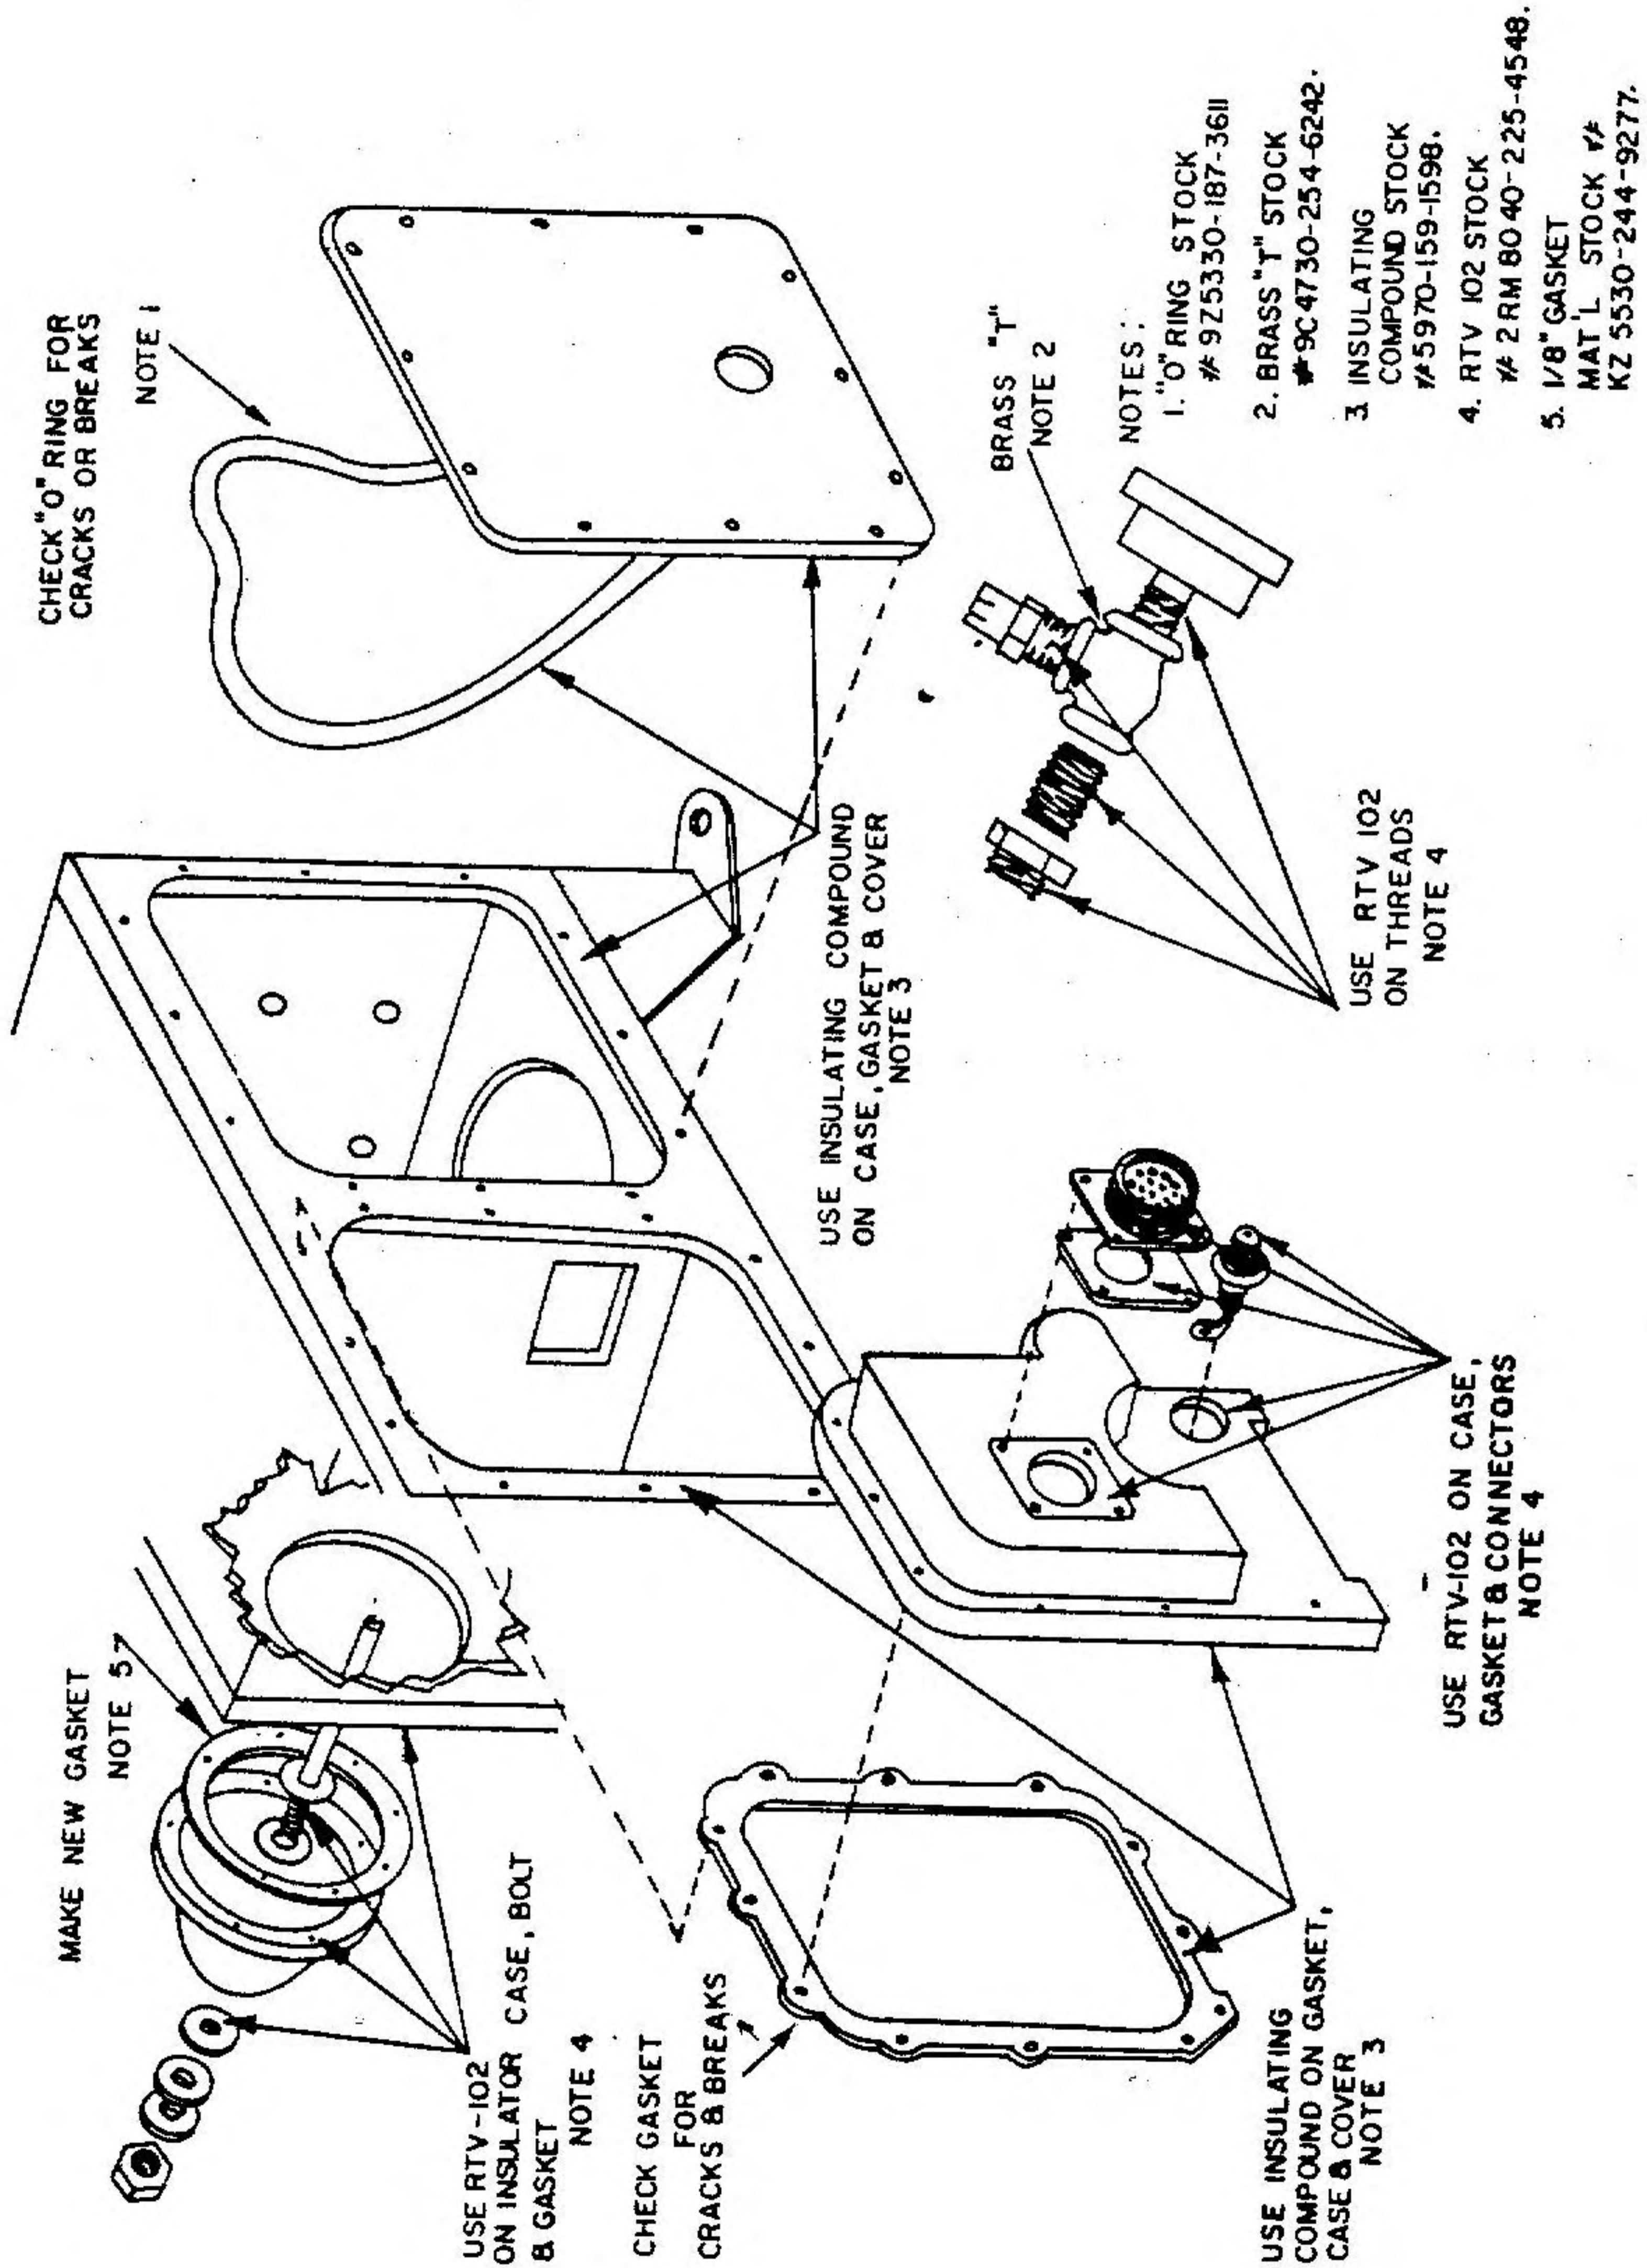

Figure 7-7. Antenna Coupler CU-714/SRA-22, Sealing Procedures
(2) Position gasket seal (2) over front of case (477) so that 12 holes in each are aligned. Gasket (2) must be lubricated with grease MIL-6-16908.
(3) Connect plug 1P9 (460) to jack 1J9 (269) and slide antenna coupler into opening in case (477), being careful that cable attached to plug 1P9 is clear of coupler r-f section.
(4) Secure front casting (49) to case (477) with 12 captive screws (1) and lockwashers (48).
(5) Connect bottle of dry nitrogen to filler valve (481) and pressurize antenna coupler to 10 psig as indicated on pressure gauge (482).
(6) Immerse entire unit in a tank of water and observe any leaks present. If any leaks are present, use correction procedure illustrated in figure 7-7.